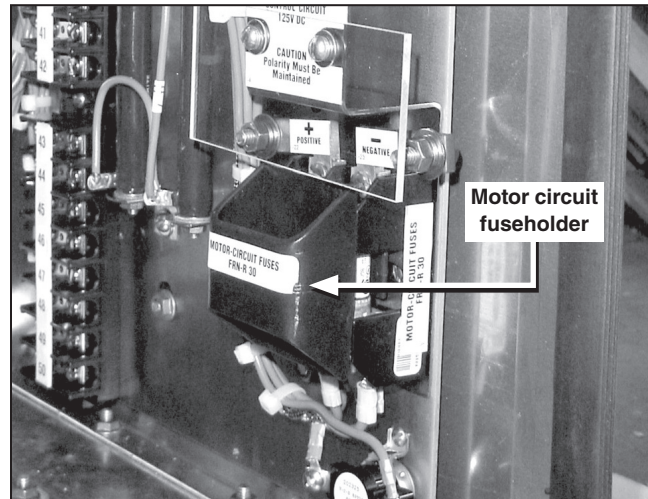

Figure 18. Remove the motor circuit fuseholder.
STEP 2. Remove the two-pole pull-out fuseholder for the motor (and space heater, if furnished). See Figure 18.